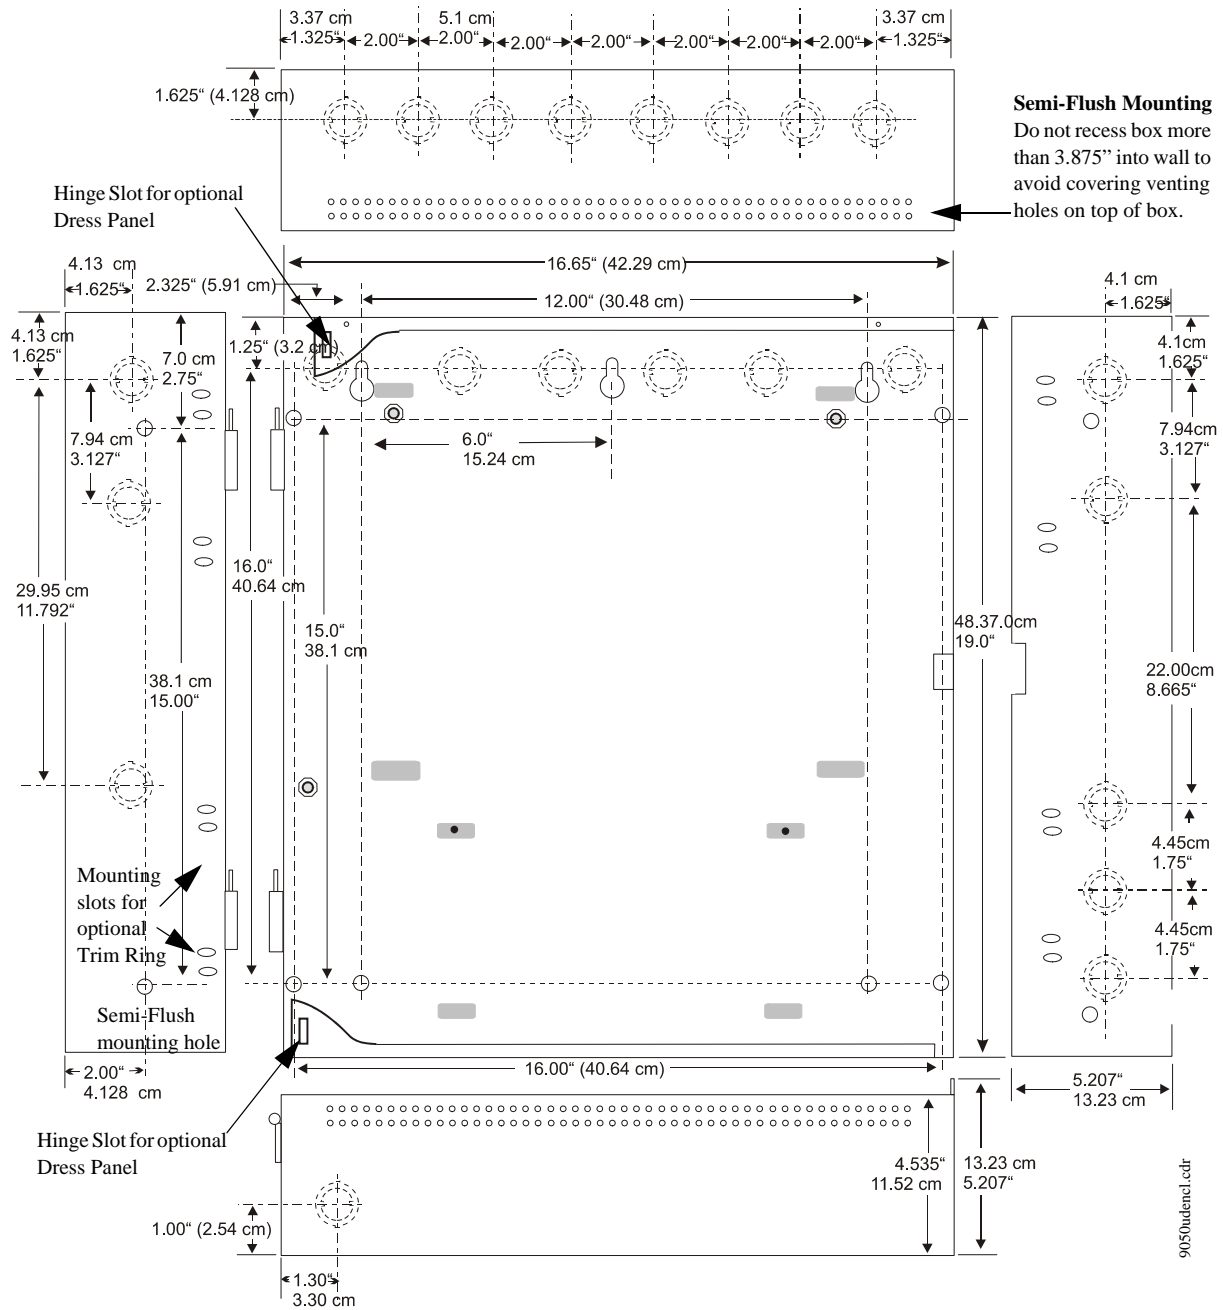

Figure 2.3 FACP Cabinet Mounting
- ✓ Mark and predrill hole in the wall for the center top keyhole mounting bolt using the dimensions illustrated in Figure 2.3 on page 41